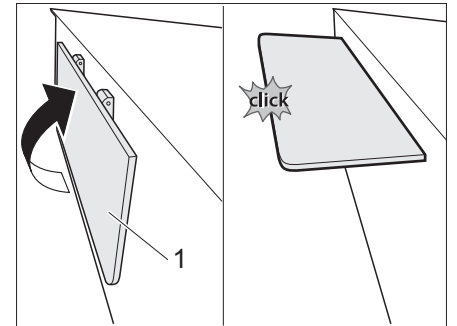

Fig. 64 Position the support edge
- ▶ Unlock the support edge (Fig. 64,1) and swivel it upwards until it locks into place.